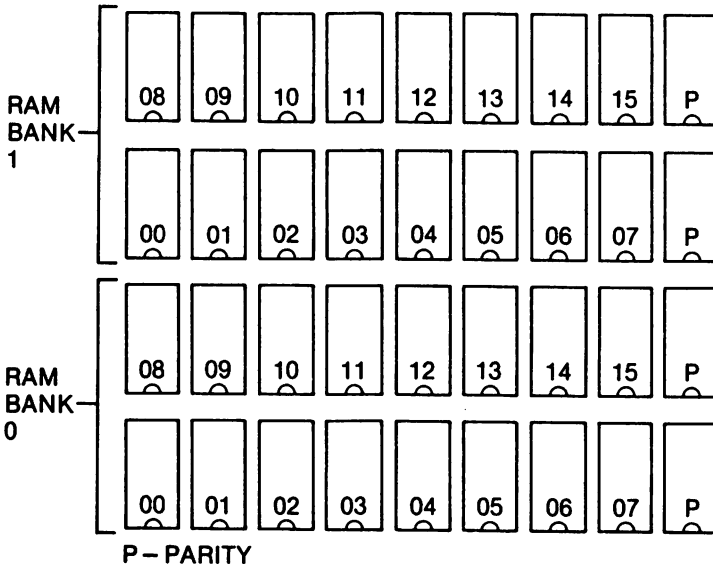

Figure A-2
1. Turn off the power, disconnect the power cord, and remove the system cover. Refer to Figure A-2 and check the RAM chips in RAM bank 0. Press down gently on each chip to make sure that all of the chips are fully seated in their sockets.
5. If the problem persists, turn off the power, disconnect the power cord, and remove the system cover. Refer to Figure A-2 and check the RAM chips in RAM bank 1. Press down gently on each chip to make sure that all of the chips are fully seated in their sockets.